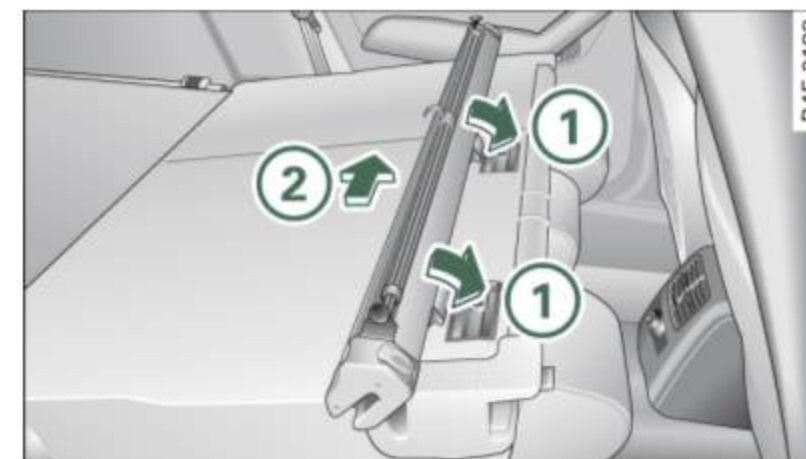

Fig. 84 Installing the partition net on the seatback
- Affix the partition net to the recesses on the retaining rails ⇒ *page 81, fig. 84* ①.
- Slide it towards the left side of the vehicle until it latches ②.
- Pull the partition net out about 5 cm to the right side of the vehicle ⇒ *page 81, fig. 84* and lift it out of the holding tracks.